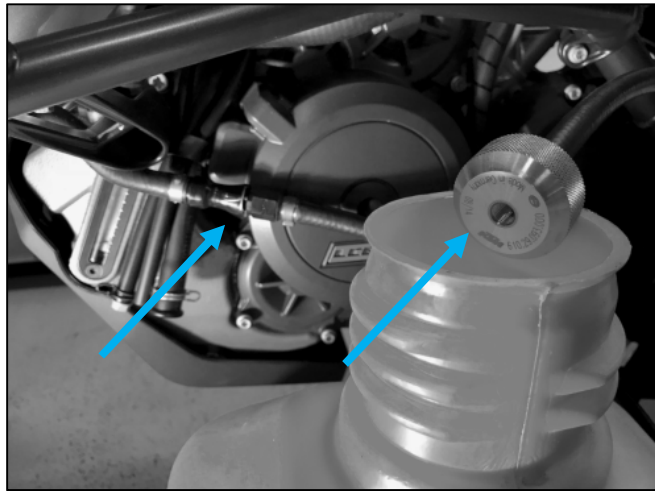

FIG. 3
- B. Or drain the fuel by using the fuel pump pressure testing tool p.n. 61029093000. Follow the steps in the bullet points below to drain the fuel using the fuel pump pressure testing tool along with the diagnostic tool (FIG. 3).
- Remove the threaded reduction adapter as shown in FIG. 3 and insert adapter holder and hose into a suitable fuel container.